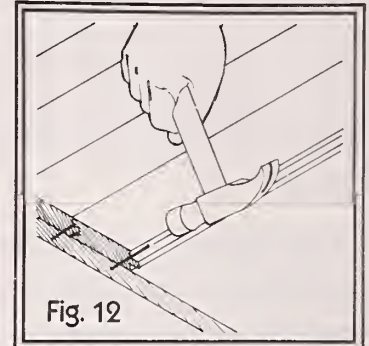

Fig. 12
5. Apply a thin layer of roofing cement over the leak area. Place the canvas patch over the cement and press it firmly. Now apply a second heavy coat of cement, fully covering the patch (fig. 12).
3. Lay the board in the opening. Blind-nail it in place by driving the nails diagonally just above the tongue of the board (fig. 12). Complete the nailing with the nail set. Space the nails the same distance they were spaced in the existing flooring.
11. Now place the new tread in position (fig. 12). Face-nail the tread to the riser below and to the stringers. If trim was removed, replace it at this point with 4d or 5d finishing nails.